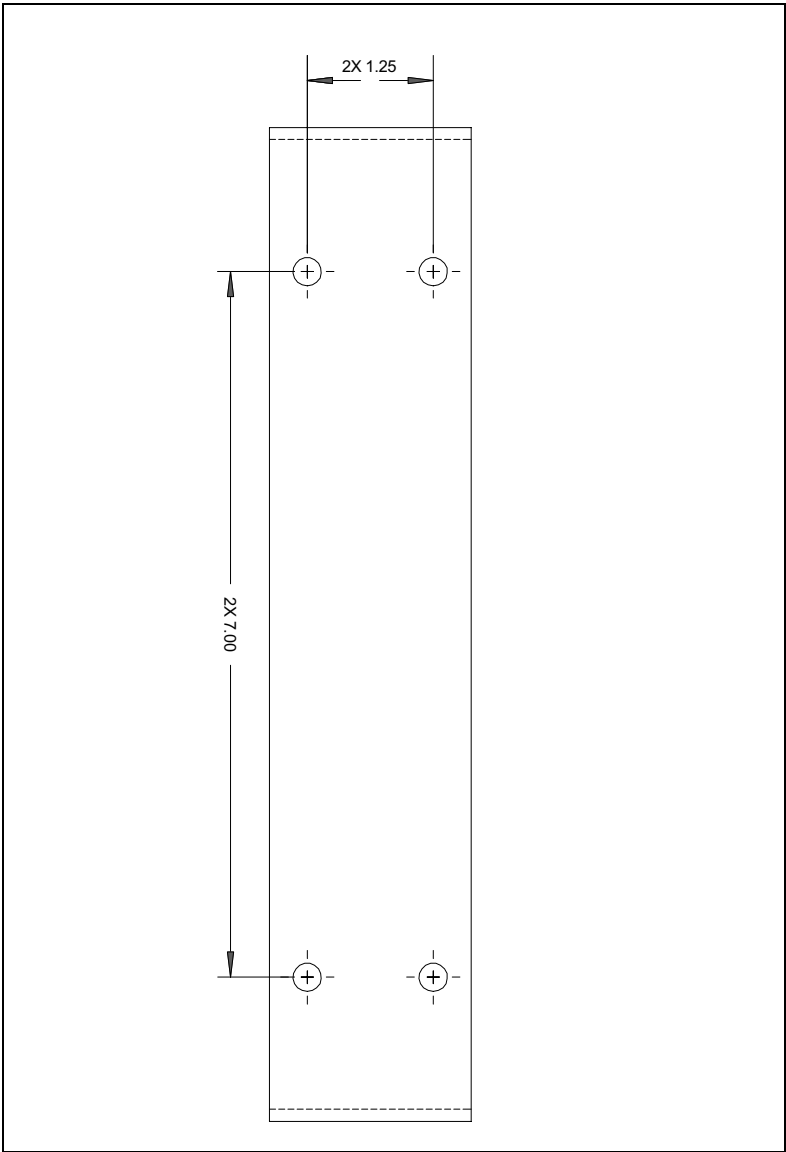

Figure 5 Mounting bracket dimensions
- Drill the two top holes 1.25 inches (3.2 cm) apart. Drill the bottom holes 7 inches (18 cm) below the top holes. Figure 5 provides a template for drilling the holes.
Figure 5 provides dimensions for drilling holes into the side of the building.